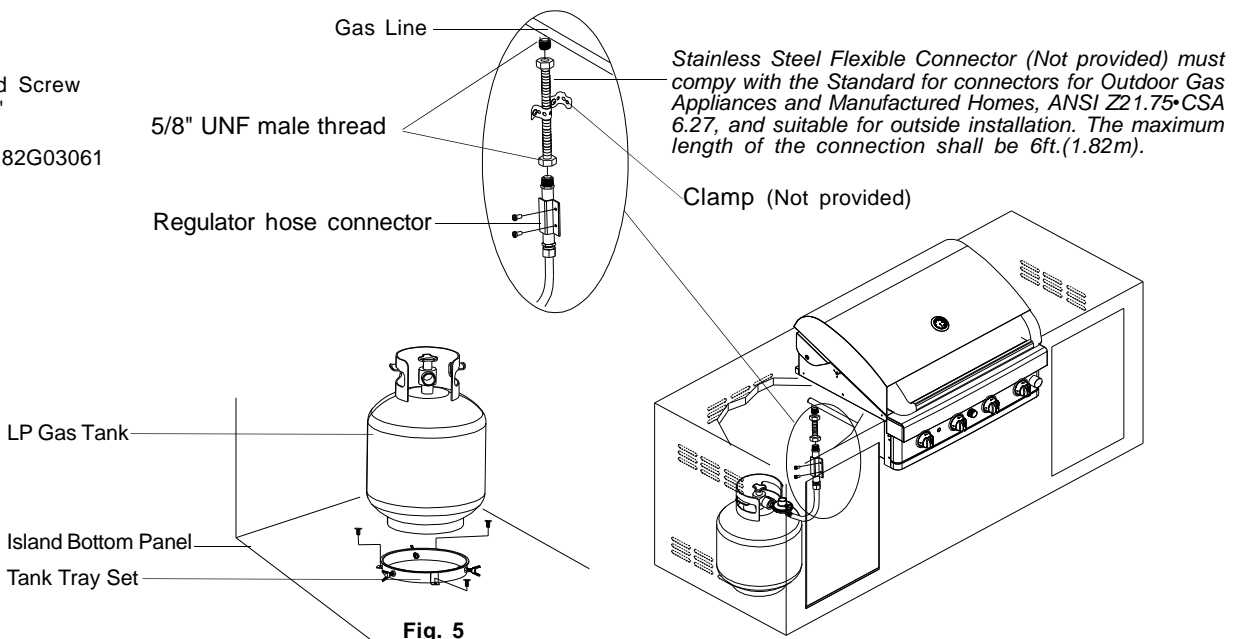

Fig. 5
- Place the LP gas tank into the tank tray set. Make sure the tank valve facing the right rear corner of left island. Tighten the wing bolt to secure the LP gas tank. (See Fig. 5)